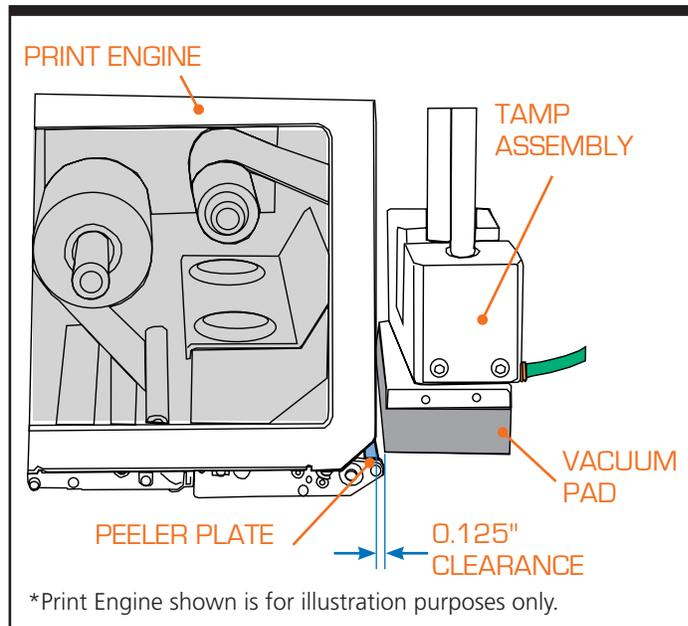

Figure 5-2. Tamp Clearance (Peeler Plate and Vacuum Pad)
Step 1. Align Mounting Holes. Align the mounting holes of the tamp body with the two slotted holes in the machine housing near the print engine. Once aligned, insert the bolts and tighten to secure the tamp body. Make sure that the distance between the tamp body and the peeler plate is a minimum of 0.125" (3 mm) (refer to Figure 5-2).
Step 1. Verify Tamp Pad Setup. First, check that the tamp pad is parallel with the bottom of the front plate, and the bottom of the vacuum pad is approximately 0.031" – 0.125" (0.79 mm – 3 mm) below the peeler plate. Also, check that the tamp module assembly is a minimum distance of 0.125" (3 mm) from the peeler plate. This eliminates any interference during cycling (refer to Figure 5-2).